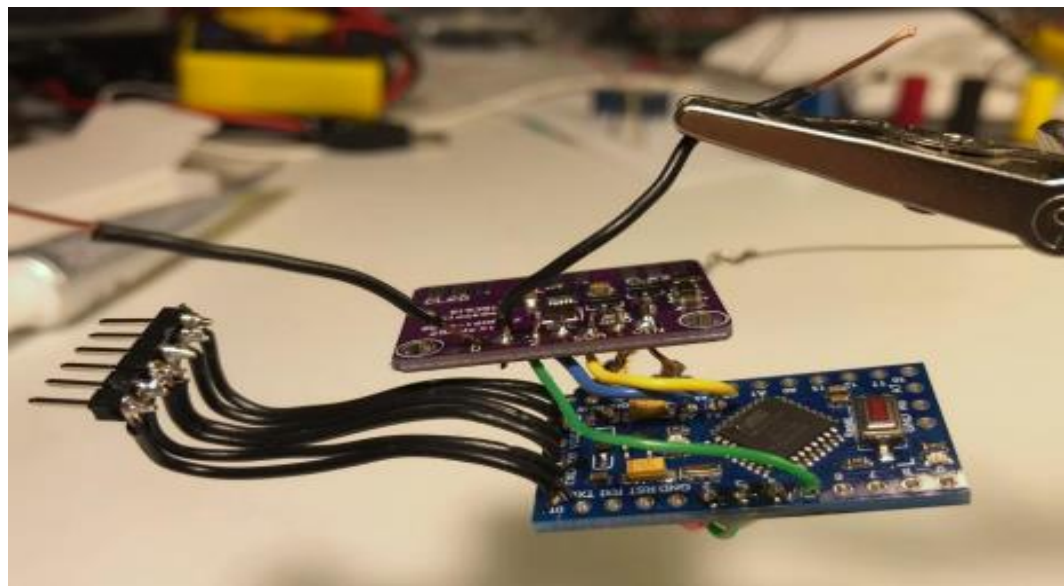

Figura 13: Top view of Integration of the SI5351 and the Arduino
4. Collegare il pin Clock 2 al pin 5 dell'Arduino (v. Figura 13, SI5351 e Arduino).